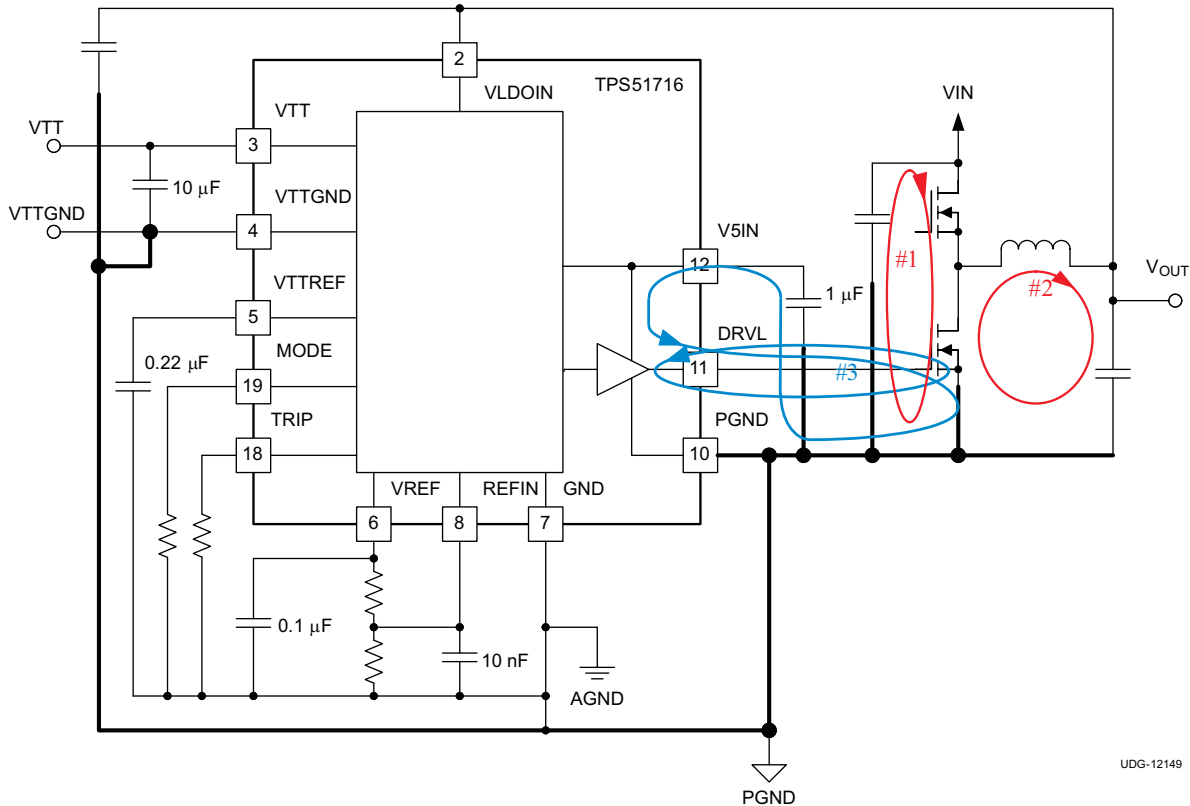

Figure 33. DC/DC Converter Ground System
- The most important loop to minimize the area of is the path from the VIN capacitor(s) through the high and low-side MOSFETs, and back to the negative node of the VIN capacitor(s). Connect the negative node of the VIN capacitor(s) and the source of the low-side MOSFET as close as possible. (Refer to loop #1 of Figure 33)
- The second important loop is the path from the low-side MOSFET through inductor and VOUT capacitor(s), and back to source of the low-side MOSFET. Connect the source of the low-side MOSFET and negative node of VOUT capacitor(s) as close as possible. (Refer to loop #2 of Figure 33)
- The third important loop is of gate driving system for the low-side MOSFET. To turn on the low-side MOSFET, high current flows from V5IN capacitor through gate driver and the low-side MOSFET, and back to negative node of the capacitor. To turn off the low-side MOSFET, high current flows from gate of the low-side MOSFET through the gate driver and PGND pin, and back to source of the low-side MOSFET. Connect negative node of V5IN capacitor, source of the low-side MOSFET and PGND pin as close as possible. (Refer to loop #3 of Figure 33)
output capacitor(s), VTTGND, GND and PGND pins should be connected to system GND plane near the device as shown in Figure 33.